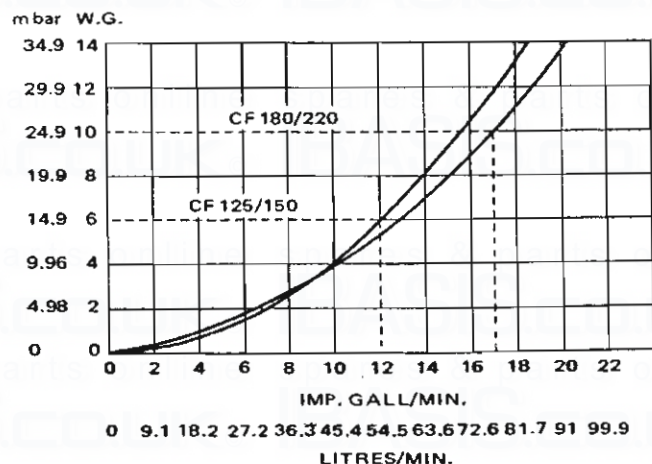

Fig. 3 PRESSURE LOSS ACROSS BOILER
5. The circulating pump should be selected with reference to figure 3. The resistance through the boiler heat exchanger will not exceed 15 mbar (6in. w.g.) at a flow rate of 12.0gall/min on CF125 and 150 boilers or 24.9mbar (10.0in. w.g.) at a flow rate of 17.0gall/min. on CF180 and 220 boilers.